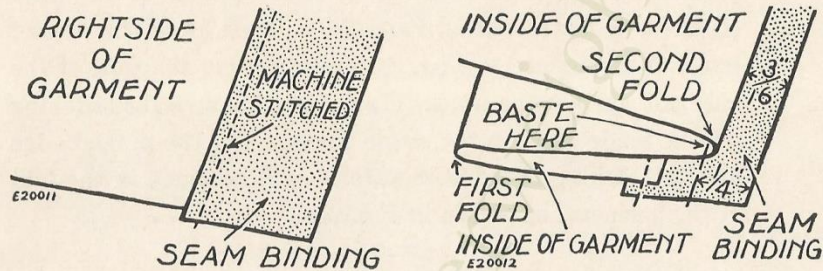

FIG. 245. PREPARATION OF MATERIAL FOR MAKING INVISIBLE HEM WITH SEAM BINDING
(SEE FIG. 245)
- a—Stitch edge of seam binding to raw edge of right side of garment to be hemmed, as shown in Fig. 245.